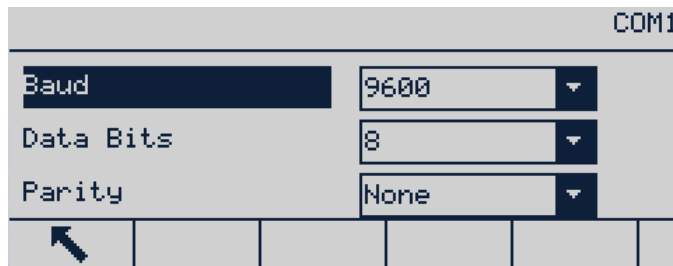

Figure B-26: COM1 Configuration Screen
- Access Communication I COM1 and check that the GT800 printer communication parameters are as shown in Figure B-26.